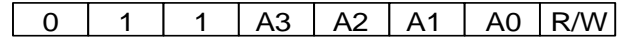

Figure 7: The I²C-Compatible Device Address
After a start (S) condition, the I²C-compatible master sends a 7-bit address, followed by an eighth data direction bit (where 1 = read and 0 = write). The eighth bit indicates the register address to/from which the data is written/read (see Figure 7).